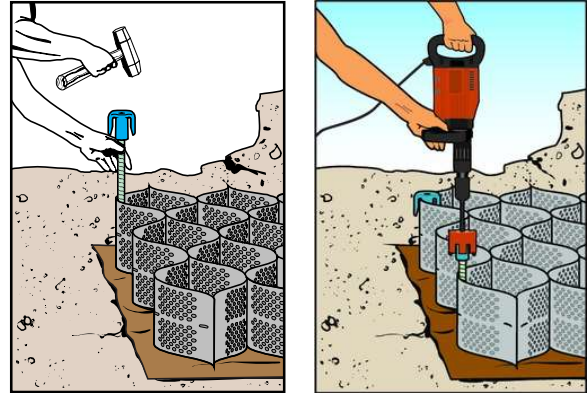
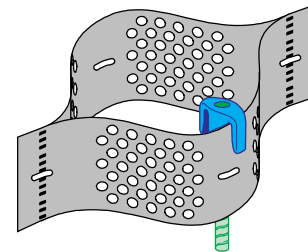

Figure 7 Stake Anchorage
Figure 8 ATRA® Anchor Placement Option
- **Option 1:** Expand the specified GEOWEB section into position and anchor with stakes. See Figure 7. When ATRA® Anchors are used, ensure the ATRA arm is hooked over the cell-wall. See Figure 8.